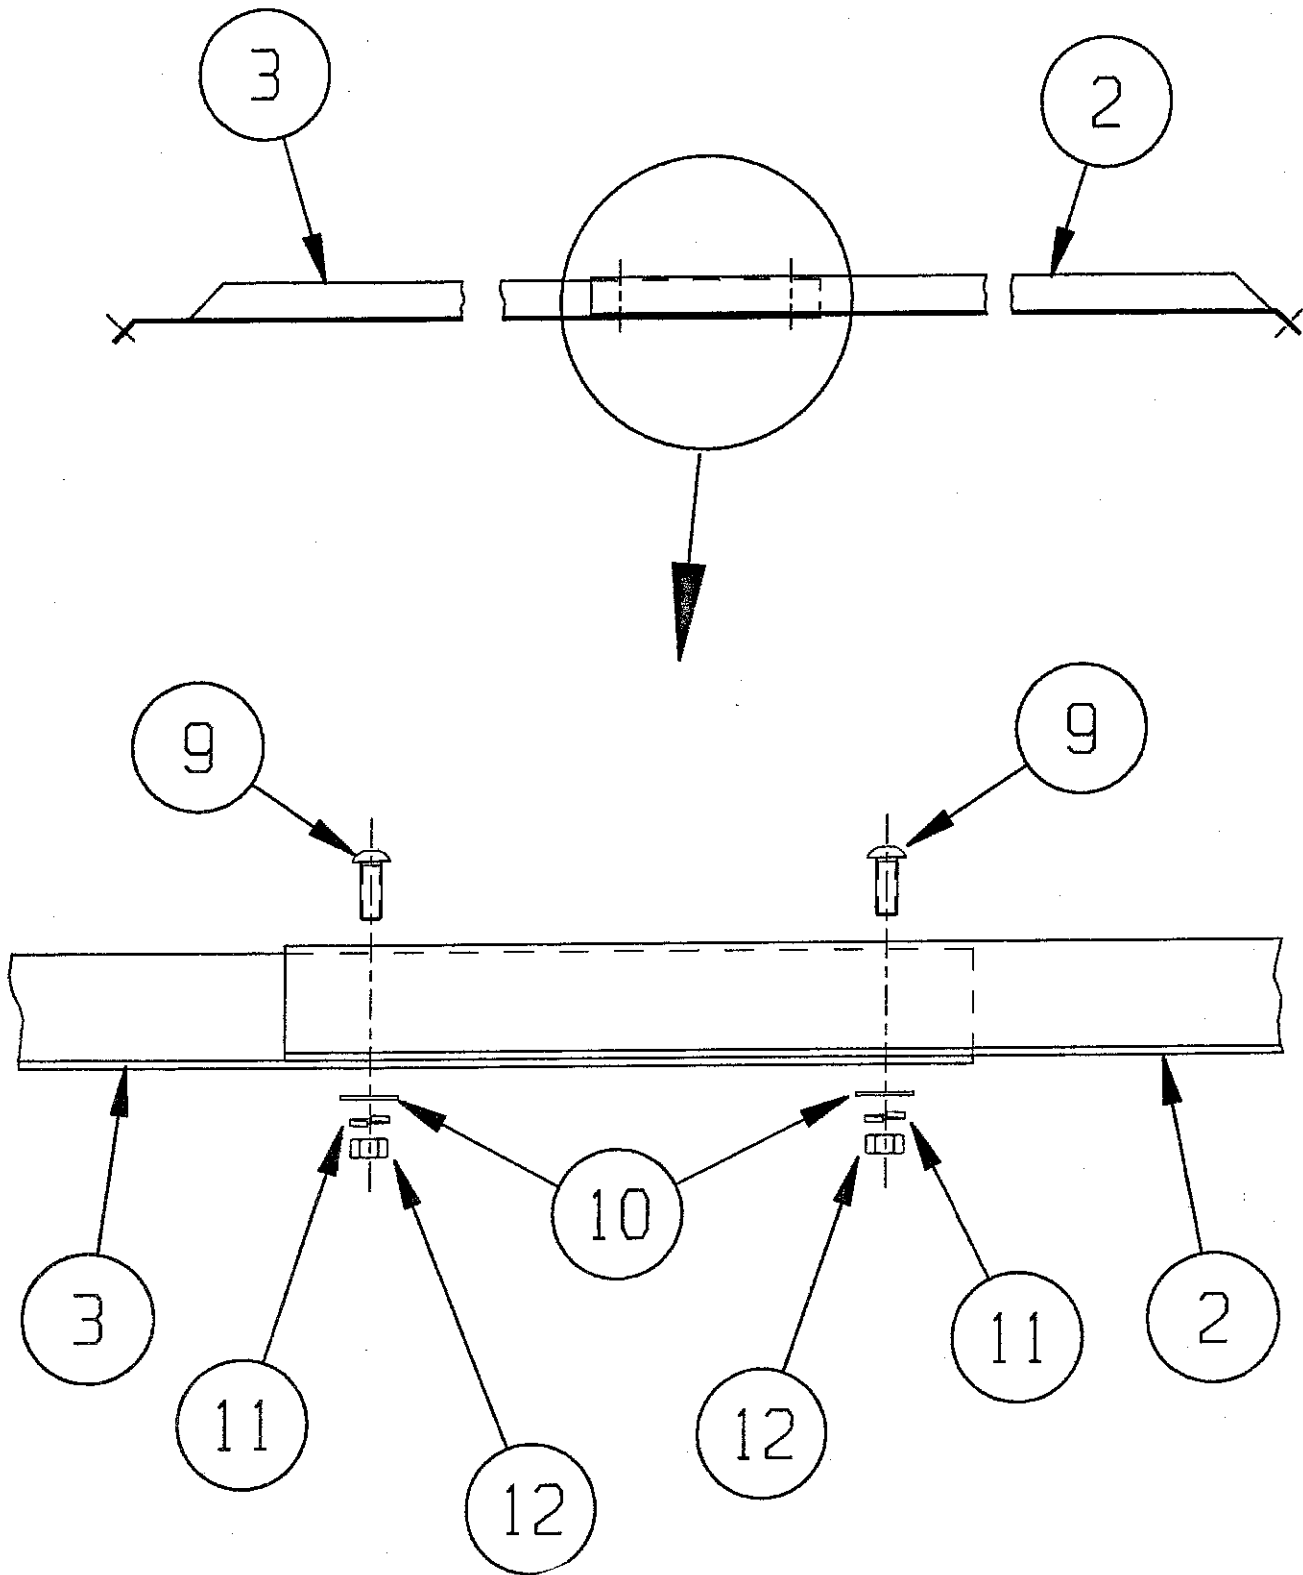

Figure 2
- STEP 3: Attach an outer base angle - Type A (item #2) to an outer base angle - type B (item #3) by overlapping the ends of the two angles as shown in Figure 2 and securing with (2) 3/8" X 1.50" carriage bolts, flatwashers, lockwashers, and hex nuts (items 9,10,11, &12). Tighten securely. Repeat for the remaining parts so that there are 4 assembled outer angle.